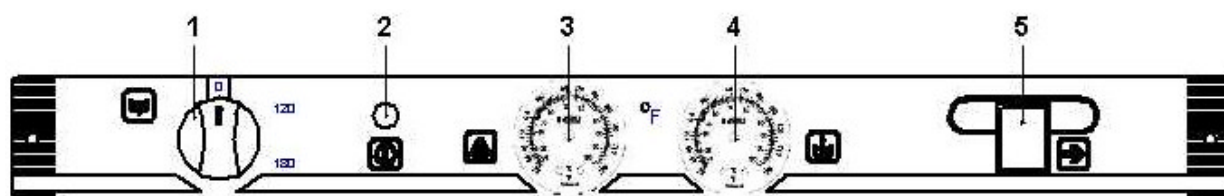
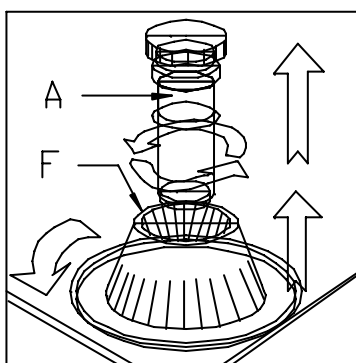

Fig. 7
Fig. 13
Set the selector knob (1) (Fig. 7) to the 120 seconds or 180 seconds cycle. The Pilot light (2) will come on and the rinse and wash water start filling the machine.
To empty the tank completely, remove the overflow tube (A) (Fig.13), set selector to position and depress start button (5) (Fig. 7). ***DON'T REMOVE THE ROUND SCRAP BASKET, ONLY THE TUBE.*** When the working day is complete set selector knob (1) to the 0 setting.
Set the selector knob (1) (Fig. 7) to the 90 seconds or 180 seconds cycle. The Pilot light (2) will come on and the rinse and wash water start to fill the machine.
To empty the tank completely, remove the overflow tube (A) (Fig.13)
- Clean scrap basket (F) (Fig.13) everyday. To do this; remove the overflow tube (A), turn scrap basket counterclockwise and lift (F). Replace the clean scrap basket (F) by putting the groves into the slots and turning clockwise (Fig. 13).